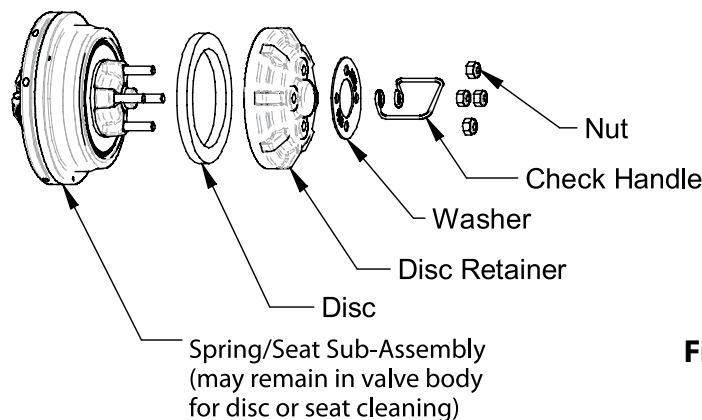

Figure 4
If only cleaning of either check is necessary, simply remove the three (3) reusable locknuts for 2-1/2" & 3" valves/ four (4) locknuts for 4" & 6" valves on the black plastic disc retainer (See Figure 4). *SUGGESTION:* Place a rag over the relief valve opening inside the valve body to prevent the locknuts from falling into the relief valve. Remove the check handle and washer and lift the disc retainer and disc out of the body. Rinse the disc with clean water or replace if necessary. The disc may be flipped over for a temporary repair, but should be replaced if damaged. Replace the disc, disc retainer, washer, handle, and nuts. **Do not over tighten locknuts.**